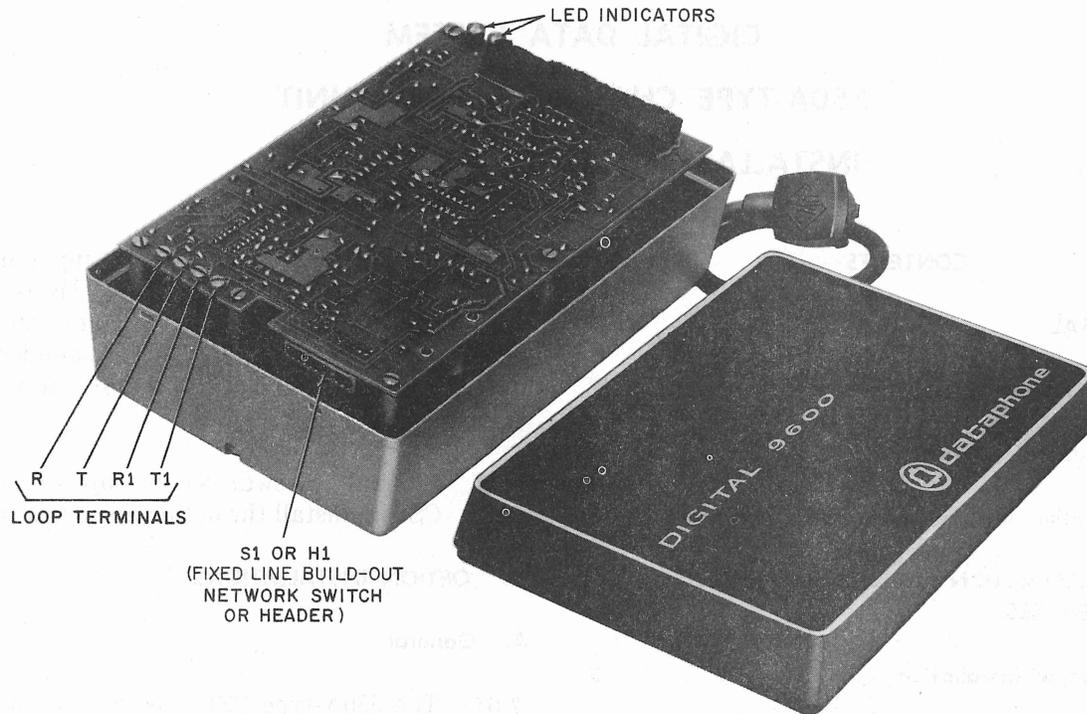

Fig. 1—550A-Type CSU—Cover Removed
2.01 The 550A-type CSU (see Fig. 1) is provided with a signal-to-ground option and a FLBO network option which must be installed or removed prior to placing the CSU in service. Options to be installed or removed should be specified on the service order or circuit layout record card (CLRC).